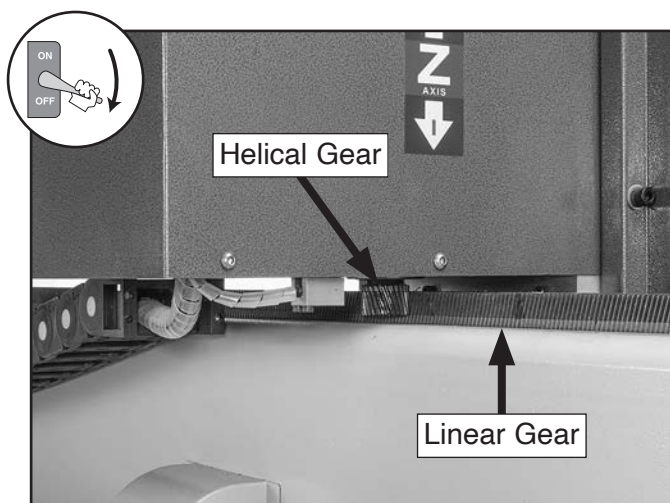

Figure 138. Example of rack and pinion lubrication area.
2. Clean X-axis helical and linear gear with mineral spirits to remove old lubrication (see **Figure 138**).
3. Use clean brush to wipe entire length of helical and linear gear with Grizzly T26419 or NLGI#2 Equivalent (see **Figure 138**).